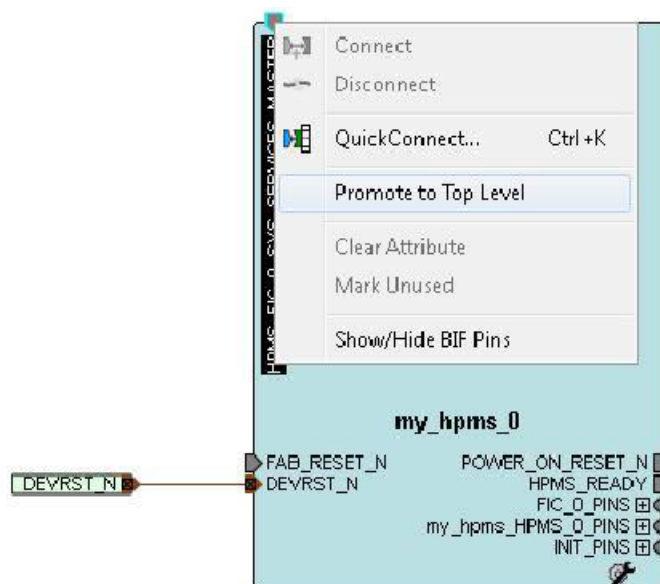

Figure 10 Promoting Ports to the Top Level in SmartDesign
15. Select **The Master BIF** on **my_hpms_top** block (mirroredMaster port M on my_hpms_top block), right-click and select **Promote to Top Level** to promote the signal to top-level, as shown in Figure 10.